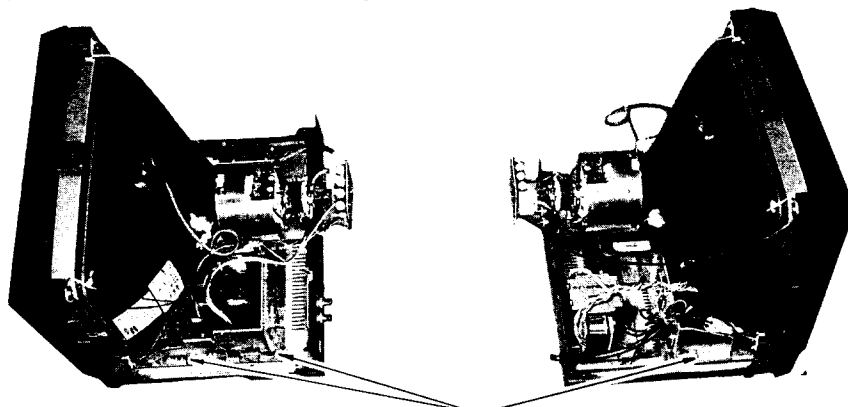

Fig. 3-1
- Remove three screws holding the printed circuit board (PCB) and slide back the PCB unit. (Fig. 3-1)